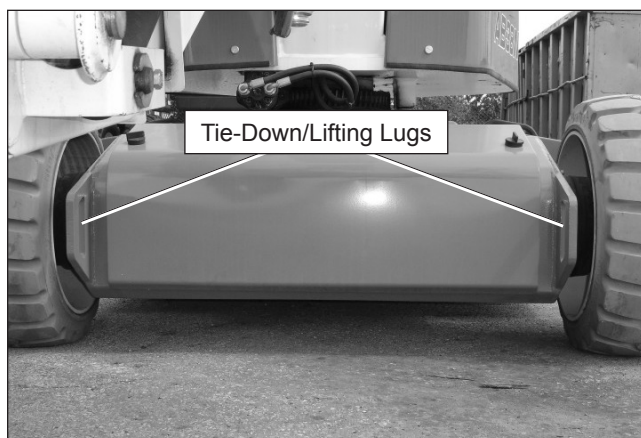

Figure 10.4 – Rear Tie-Down/Lifting Lugs
2. Inspect the front lifting lugs (refer to Figure 10.2) and the rear lifting lugs (refer to Figure 10.4) to make sure they are free of cracks and are in good condition. Have any damage repaired by a qualified service technician before attempting to hoist the machine.